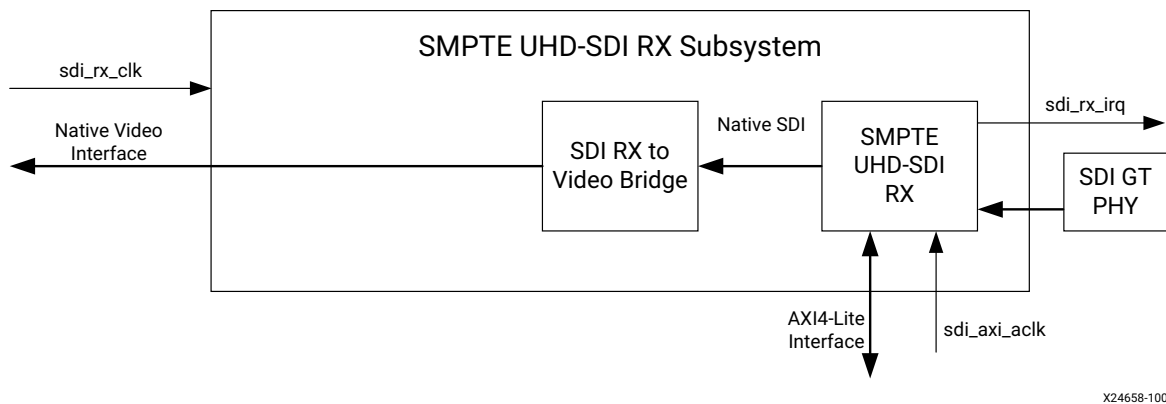

Figure 1-2: SMPTE UHD-SDI RX Subsystem Native Video Architecture
Figure 1-2 shows the SMPTE UHD-SDI RX Subsystem with native video as the user interface. The SMPTE UHD-SDI (RX) IP core and SDI RX to Video Bridge IP core are present in the subsystem and the subsystem outputs native video.